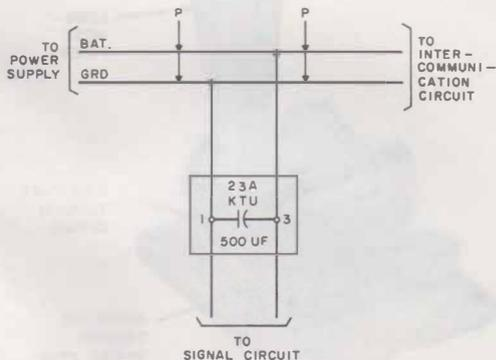

Fig. 24—Noise Suppression Filter
5.05 Where a common battery feeder is used for intercommunicating and signaling, connect a 23A KTU across the signal circuit (Fig. 24).